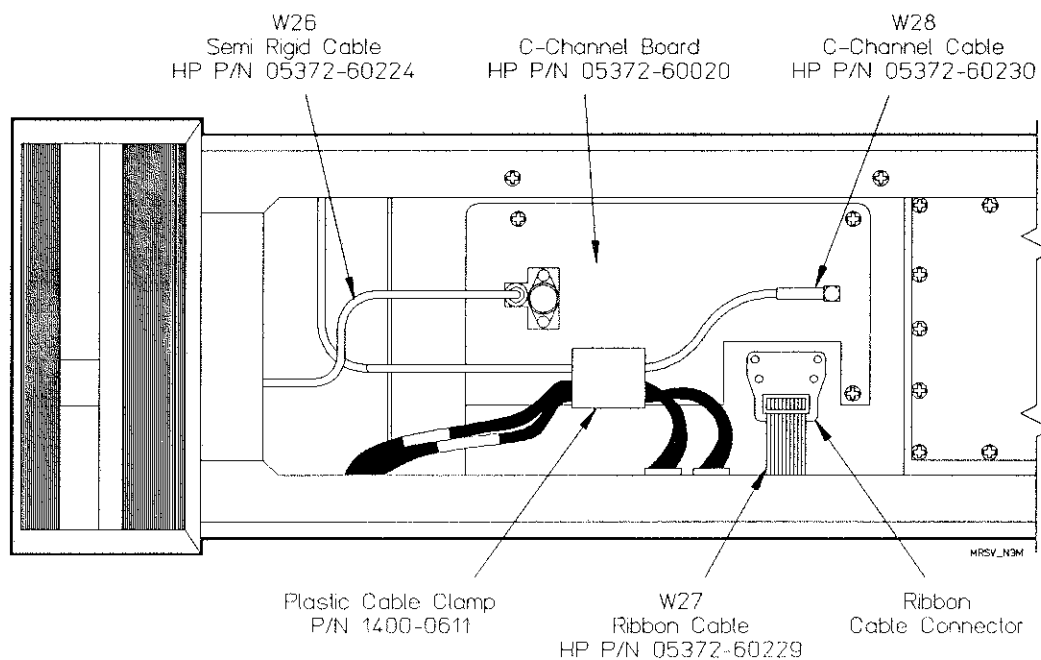

Figure 1-3. Right Side View of Option 030 Installation
9. Install the C-Channel board by screwing it on to the four standoffs on the right outside edge of the card cage. Make sure that the ribbon cable connector faces out toward the side cover, and down toward the mother board. (see *Figure 1-3*).
- b. Plug the other end of the ribbon cable into the connector on the mother board. (see *Figure 1-3*).
- a. Partially screw on the semi-rigid cable to the SMA side of the front panel N-to-SMA adapter until the other end lines up with the SMA connector on the C-Channel board which is located closest to the front of the instrument (See *Figure 1-3*).
- b. Connect the other end of the C-Channel cable to the C-Channel board's SMA connector that is located closest to back of the instrument. (see *Figure 1-3*).
17. Attach the plastic cable clamp (P/N 1400-0611) to the bottom edge of the C-Channel board (see *Figure 1-3*). Slide the C-Channel cable and the two black input pod cables into the cable clamp.